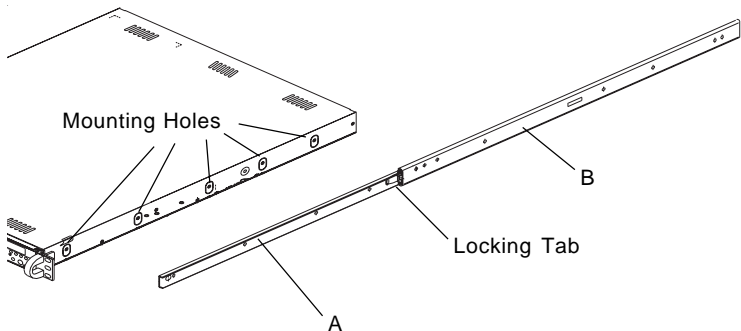

Figure 2-1. Identifying the Sections of the Rack Rails
You should have received two rack rail assemblies with the SuperServer 6011D. Each of these assemblies consist of two sections: an inner fixed chassis rail that secures to the 6011D (A) and an outer fixed rack rail that secures directly to the rack itself (B). A sliding rail guide sandwiched between the two should remain attached to the fixed rack rail. (See Figure 2-1.) The A and B rails must be detached from each other to install.